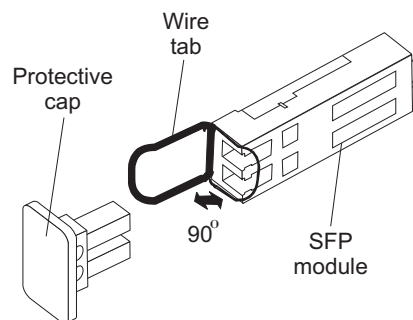

Figure 15. SFP module and protective cap
2. Remove the protective cap from the SFP module, as shown in Figure 15. Save the protective cap for future use.
2. If necessary, remove the protective cap from the SFP module, as shown in Figure 15 on page 42. Save the protective cap for future use.